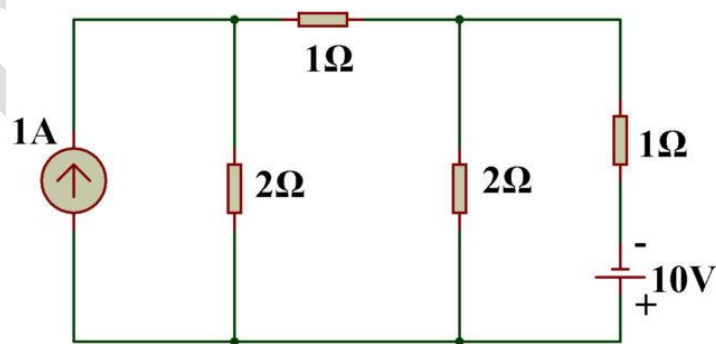

Figure: 1
**Example: 3** Using mesh analysis, obtain the current through the 10V battery for the circuit shown in figure 1.